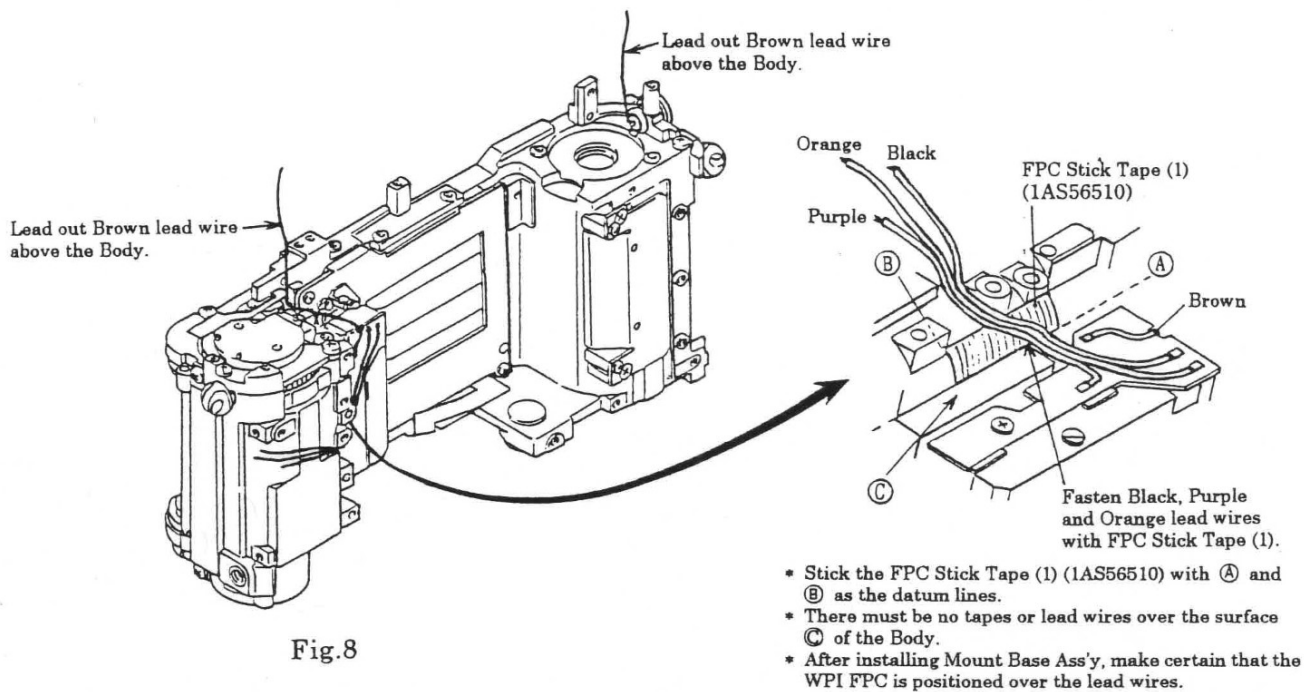

Fig.8
- a) Before installing the Winding Base Plate Ass'y (1ASG0000), Winding Unit Ass'y (1ASW0000) and Mount Base Ass'y (1ASM0000), dress the lead wires and FPCs as shown in Fig. 8.
- When the Shutter Unit has been replaced, stick the Shutter Tape (1) (1AS36200), Shutter Tape (2) (1AS36300) and Shutter Light Shield Sheet (1AS35100).
- After installing the Shutter Unit, fasten the lead wires of the Shutter Unit with the FPC Stick Tape (1) as shown in Fig. 8.